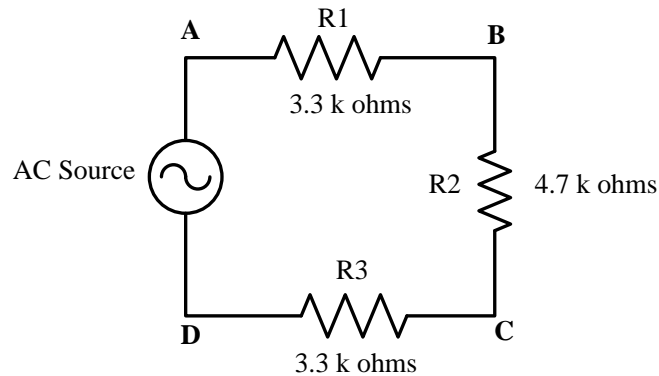

Figure 4-5: A circuit for measuring rms and peak values.
1. Connect the circuit of Figure 4-5.
2. Connect the output of the sine-wave generator (AC source in Figure 4-5) to channel 1 of the dual-trace scope.
3. Turn on the generator. (Press the POWER (9) button.) Select sinusoidal waveform. Set the frequency to 1000 Hz. With a DMM (used as an AC voltmeter) connected across its output, adjust the signal generator output to 5 V (rms). Record the value in the "Voltage, rms, measured" column of Table 4-1.